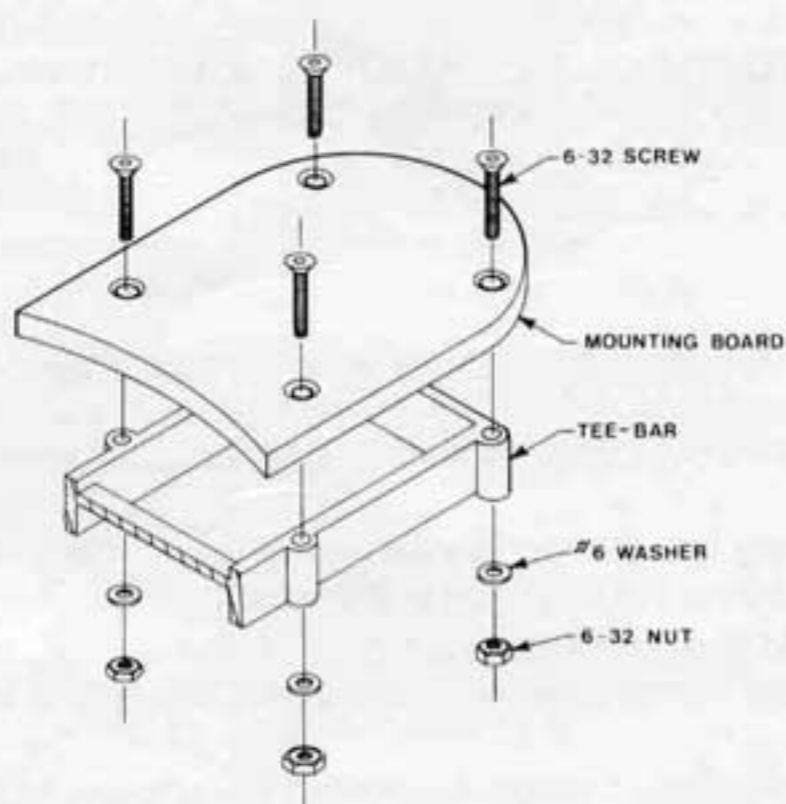
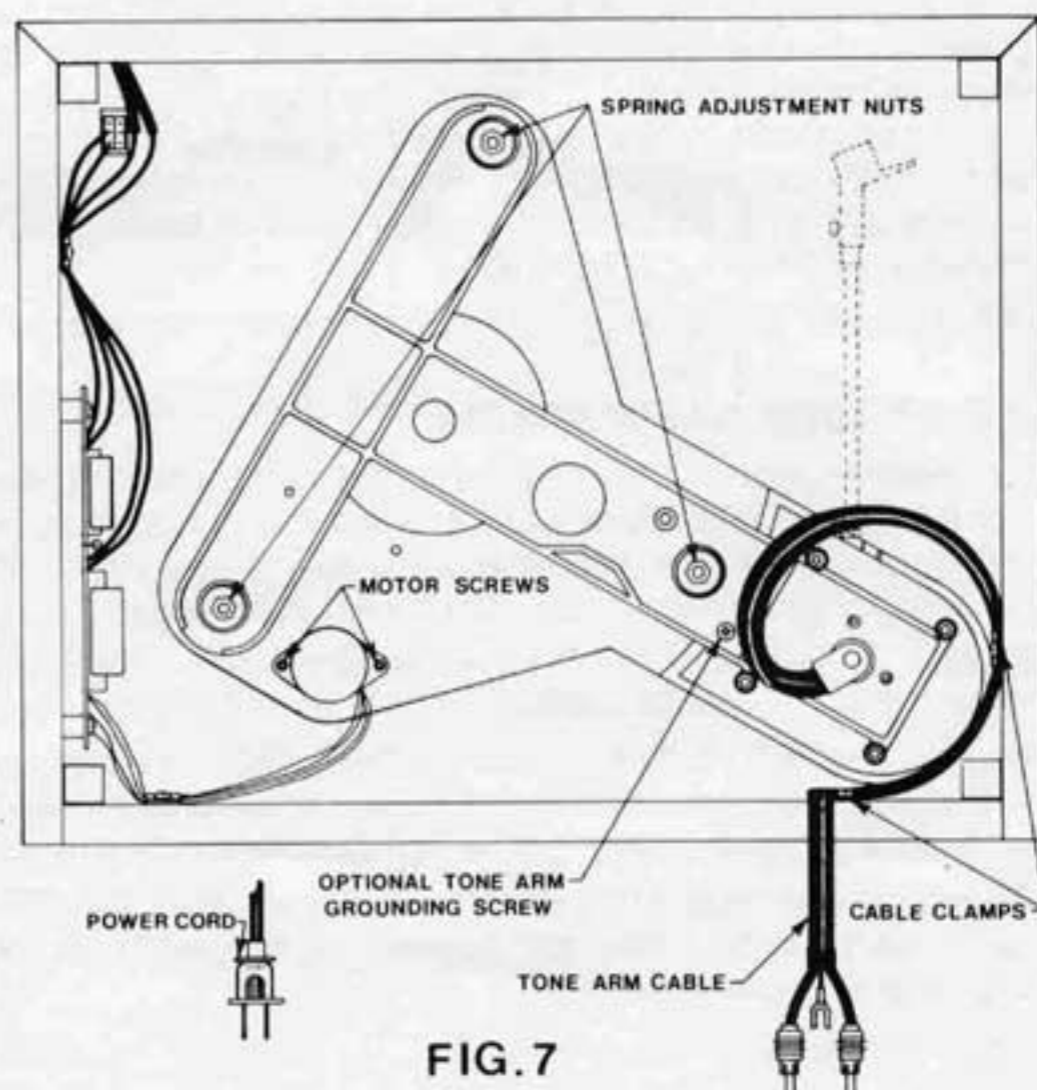
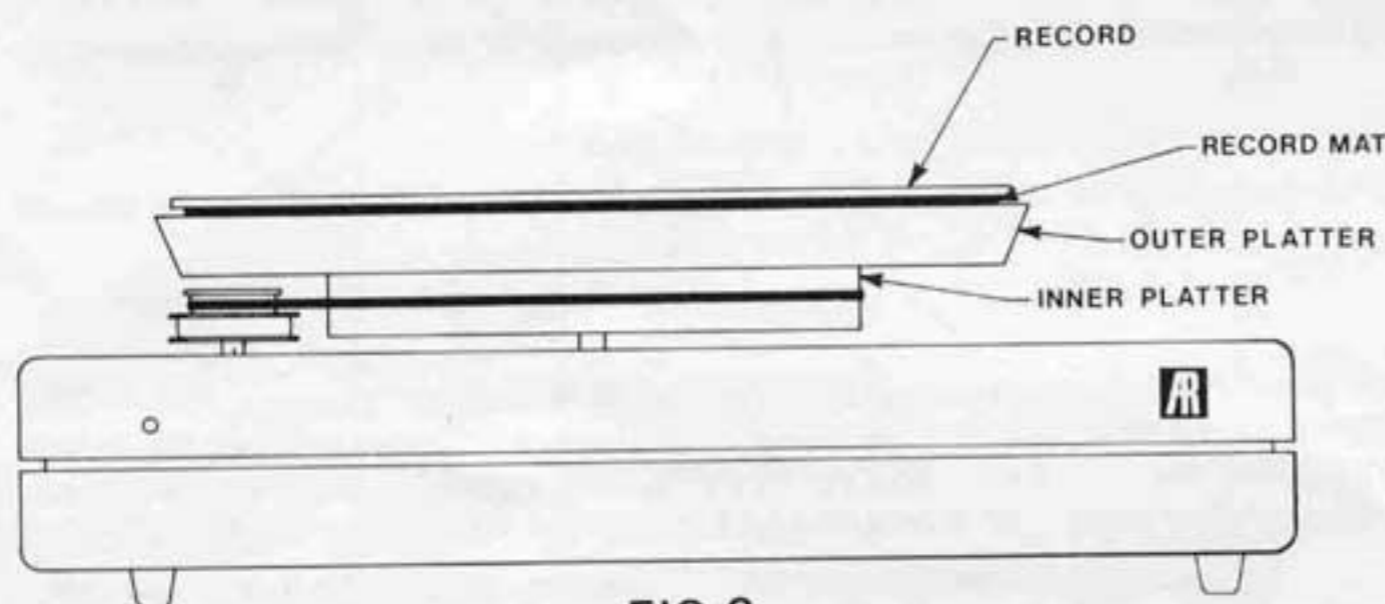
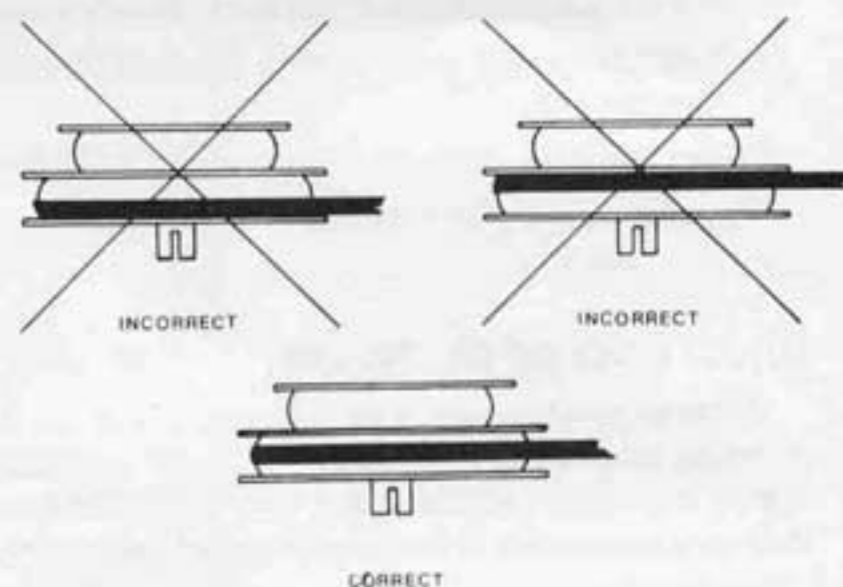

FIG. 6
FIG. 7
FIG. 8
FIG. 9
- (2) Support the turntable base 6 to 12 inches above a table or similar surface such that access is given to the inside. This can be achieved with books under each end, ensuring that the base is firmly seated and that the upper surface of the base is perfectly level. Use a spirit level (not supplied) to ensure a level surface.
- (3) Using the instructions and/or template(s) supplied with your tonearm mark all the holes that will be needed on the tonearm mounting board and then remove the board. The board is held in place by four allen screws which pass through the tee bar and are held with four nuts and washers (fig 6). The $\frac{5}{64}$ inch allen wrench supplied in the accessories fits the screws.
- (4) Drill and/or cut the board as required.
- (5) The tonearm may now be mounted on the board and the board replaced, ensuring that the four allen screws are tightened securely. Set up the tonearm following the manufacturer's instructions.
- (6) The tonearm cables can now be installed. The cable(s) are held by the two clamps and screws provided in the accessories which should be screwed into the interior side or underside of the base. The cable should be positioned with as much free cable as possible between the tonearm base and the clamps to allow free movement of the suspended tee-bar. This free cable should not touch any part of the tee-bar, base, or bottom cover. One way of achieving this is shown in fig 7, although different tonearms and cables will require different layouts to achieve the free movement and a degree of experimentation is necessary. It may be found that your tonearm has a very deep base that would make the cable touch the bottom cover. This can be overcome by cutting a clearance hole in that cover to allow the cable loop to fall below the cover level (the feet give an extra clearance of about $\frac{1}{2}$ inch if this is done).
- (7) Next the turntable itself should be made operational as covered in section (B).
- (8) The suspension should now be adjusted. Ensure that the drive belt, outer platter, turntable mat and a record are in place for this step. The (tee-bar — platter — tonearm) subsystem is levelled using the three nuts under the springs on the underside of the deck (fig 7). These should be turned until the outer platter is sitting with its outer edge approximately $\frac{1}{4}$ inch above the top surface of the base. The precise dimension is not important but it is critical that it be absolutely constant all around the perimeter of the platter as this ensures that the playing surface is level.
- (9) The tonearm board should have an approximately even gap around it. If it is too close in one area, its position can be adjusted by rotating one or more springs whilst keeping the nuts from turning with them.
- (10) Remove the record, mat, and outer platter and replace the bottom cover and feet.
- (11) Place the outer platter UPSIDE-DOWN on the inner platter and put the mat and record on top of it. The drive belt and pulley is now visible (fig 8). Connect the line cord to the outlet and switch on the turntable. The drive belt should run on the crown of the pulley and not rub against either flange (fig 9). If this is not so, unplug the line cord, remove the bottom cover again and shim the motor to correct matters. The motor may be loosened by the two screws shown in fig 7 and then shimmed with piece(s) of paper before retightening the screws. If the belt rubbed the bottom of the pulley, then the side away from the platter will need shimming and vice-versa. **IN ORDER TO AVOID THE POSSIBILITY OF ELECTRIC SHOCK, REMEMBER TO ALWAYS MAKE SUCH ADJUSTMENTS WITH THE POWER CORD DISCONNECTED AND DO NOT RE-CONNECT IT UNTIL THE BOTTOM COVER HAS BEEN REPLACED.**